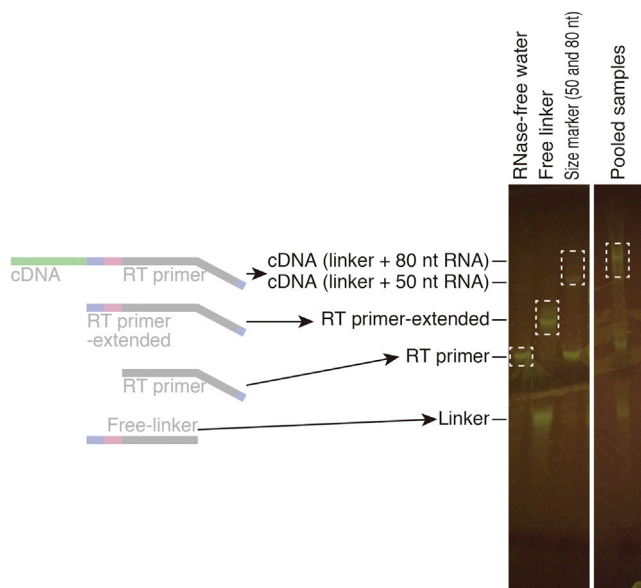

Figure 6. A Representative Gel Image for Reverse Transcribed Products
71. Gel-purify the cDNA as described in steps 42–54. Use DNA extraction buffer instead of RNA extraction buffer. See Figure 6 for a representative result.